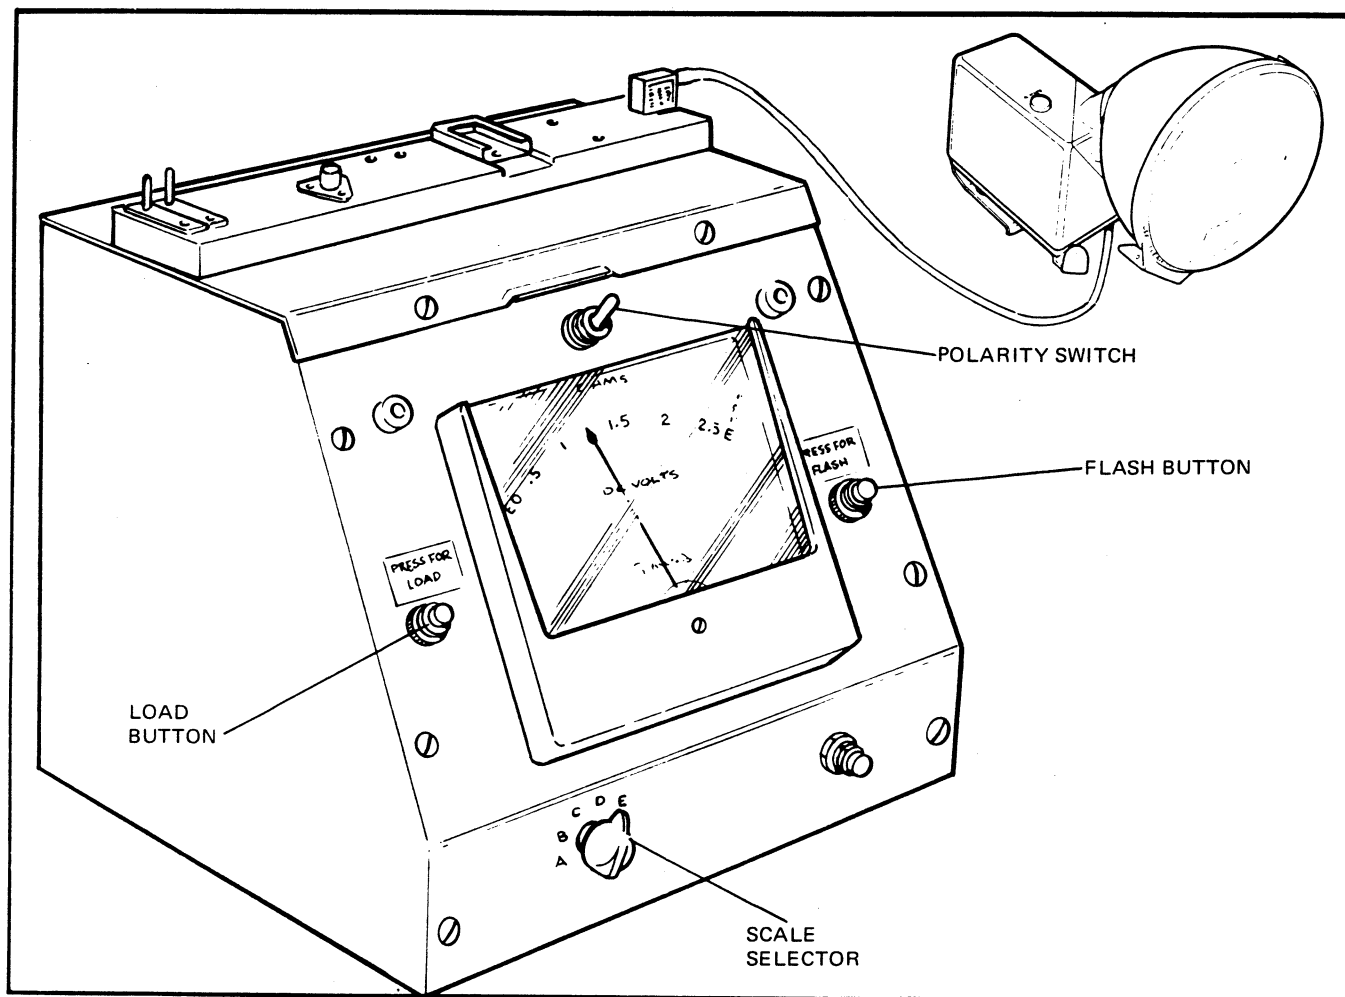

FIG. 3.13 UNIVERSAL FLASHGUN TESTER
1. Place a special no-load dummy plug in the flashgun and plug the flashgun into the Universal Flashgun Tester (see Figure 3-13). The tester should be set to the 2.5 vdc scale.